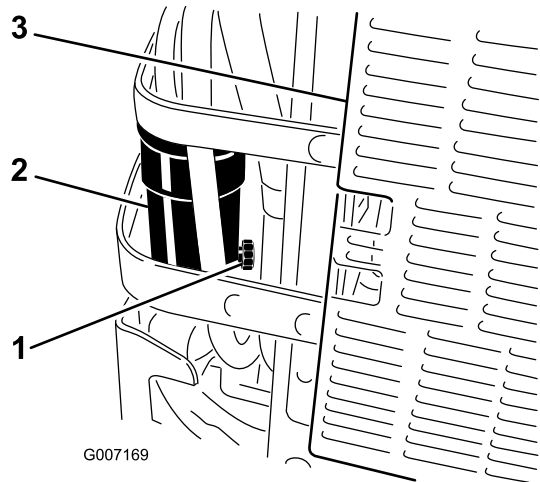

Figure 16
2. Open the water separator drain valve until fuel starts to drain out and close the valve (Figure 16).